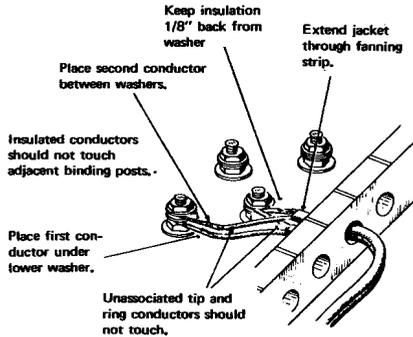

FIGURE 2. Two Conductors Terminated on One Building Post
- 3.05 When two conductors are terminated on the same binding post, place first conductor under the lower washer and the second conductor between the washers (see Figure 2).